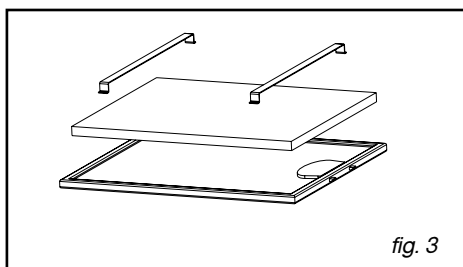

fig. 3
– Remove the filter cartridges (fig. 3).